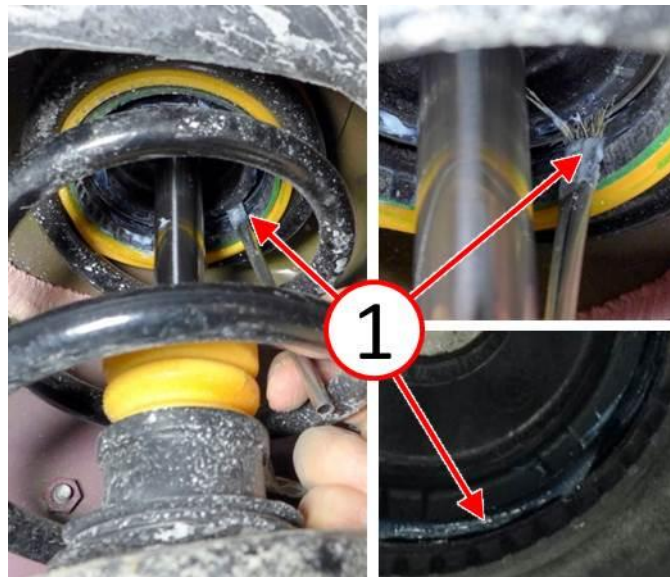

Fig. 3 Distribute Nye Lubricant
5. Use the brush to spread the Nye® lubricant around 360° inside of the strut mount bushing (Fig. 3).